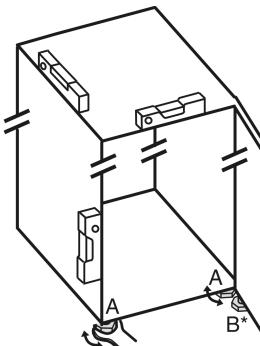

Fig. 23
- Unscrew the adjustable feet Fig. 23 (A) using the enclosed open-end spanner and a spirit level until the appliance is firmly aligned and level.
- Unscrew the adjustable foot Fig. 23 (B) on the swap bearing block with the enclosed open-end spanner until it rests on the floor.
- Turn the adjustable foot Fig. 23 (B) 90° further.